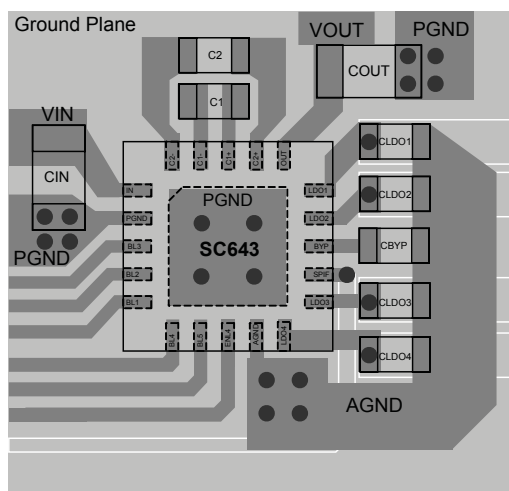

Figure 2 — Recommended PCB Layout
The layout diagram in Figure 2 illustrates a proper two-layer PCB layout for the SC643 and supporting components. Following fundamental layout rules is critical for achieving the performance specified in the Electrical Characteristics table. The following guidelines are recommended when developing a PCB layout:
- The following capacitors — CLDO1, CLDO2, CLDO3, CLDO4, and CBYP should be grounded together. Connect these capacitors to the ground plane at one point near the AGND pin as shown in Figure 2.